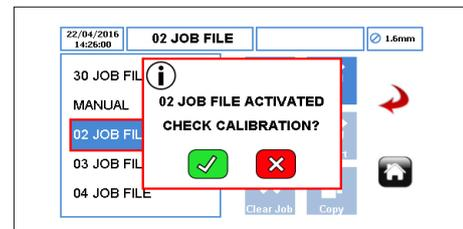

Figure 11 Job File Activated
- ▶ To activate the Highlighted Job File and any changes made, touch the icon . If the pump is running, the activate icon will be 'greyed out'. Once a Job File has been activated, the user will be prompted as per Figure 11.